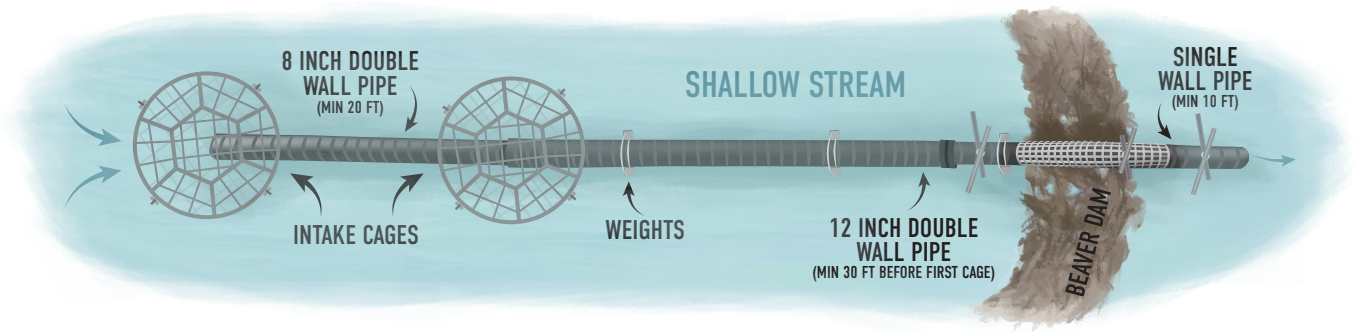

Figure 5. Dual intake pond leveler modification for shallow streams.
- A dual intake system (Figure 5)